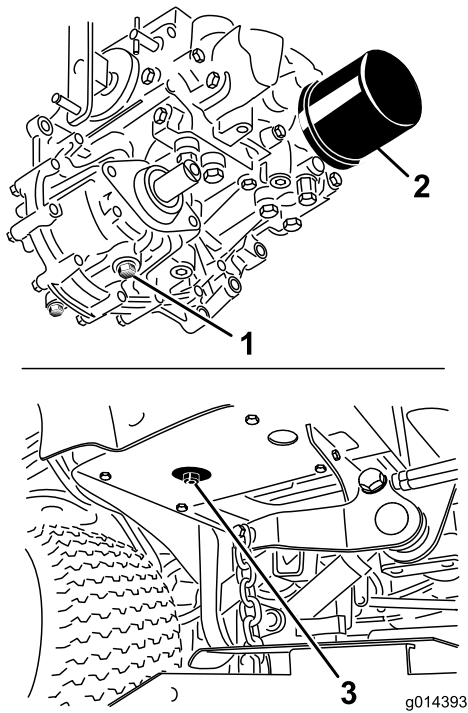

Figure 68
3. Place a large pan under the hydraulic reservoir and transmission case and remove the plugs, draining all of the hydraulic fluid (Figure 68).
4. Clean the area around the hydraulic oil filter and remove it (Figure 68).